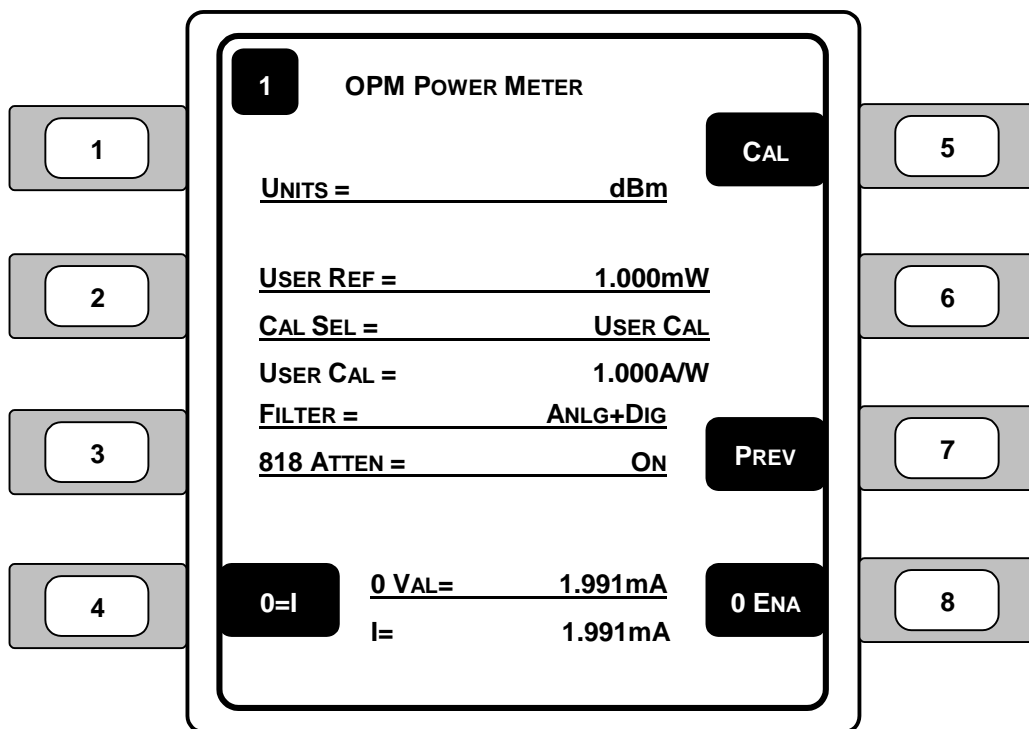

Figure 41 – Single Channel Optical Power Meter Setup
7. **SETUP** – Changes the screen to the optical power meter setup menu. See **Figure 41**.